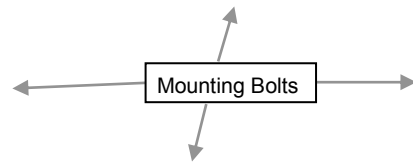

Figure 31: Table Mounting Bolts
6. To adjust the table, loosen the four cap screws in the table mounting locations (See Figure 31) and slightly tap the table in the needed direction. Repeat Steps 2–5 until the blade and miter slot are parallel.
7. Tighten the table mounting cap screws with Hex Wrench, alternating manner. (See Figure 31)